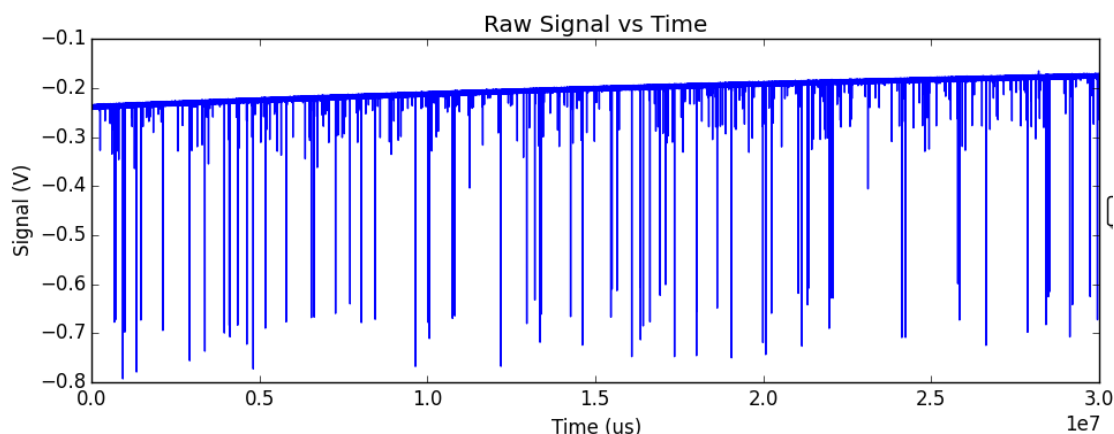

Figure 6. Exemplary raw data: Smooth baseline with particle detection events appearing as downward peaks.
- Raw data should have the form shown in **Figure 6**—it has a smooth baseline with particle detection events appearing as downward spikes from the baseline.